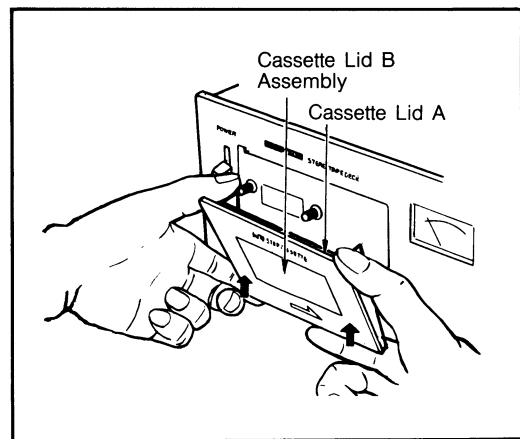

FIG. 2
2. Remove cassette lid B lifting it up as shown in Fig. 2.